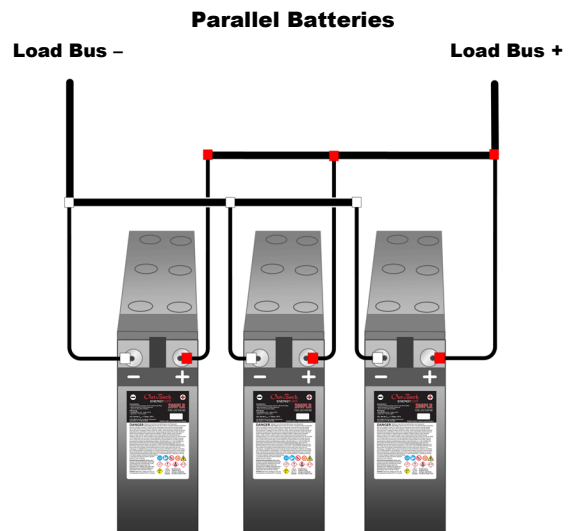

Figure 5 Parallel String Configuration
7. Install parallel connections. Parallel connections are made from the positive terminal of one battery or string to the positive of the next; negative connections are made similarly. (See Figure 5 on page 9.) External cables or bus bars must be provided. The interconnecting bar included with front-terminal batteries cannot make parallel battery connections.